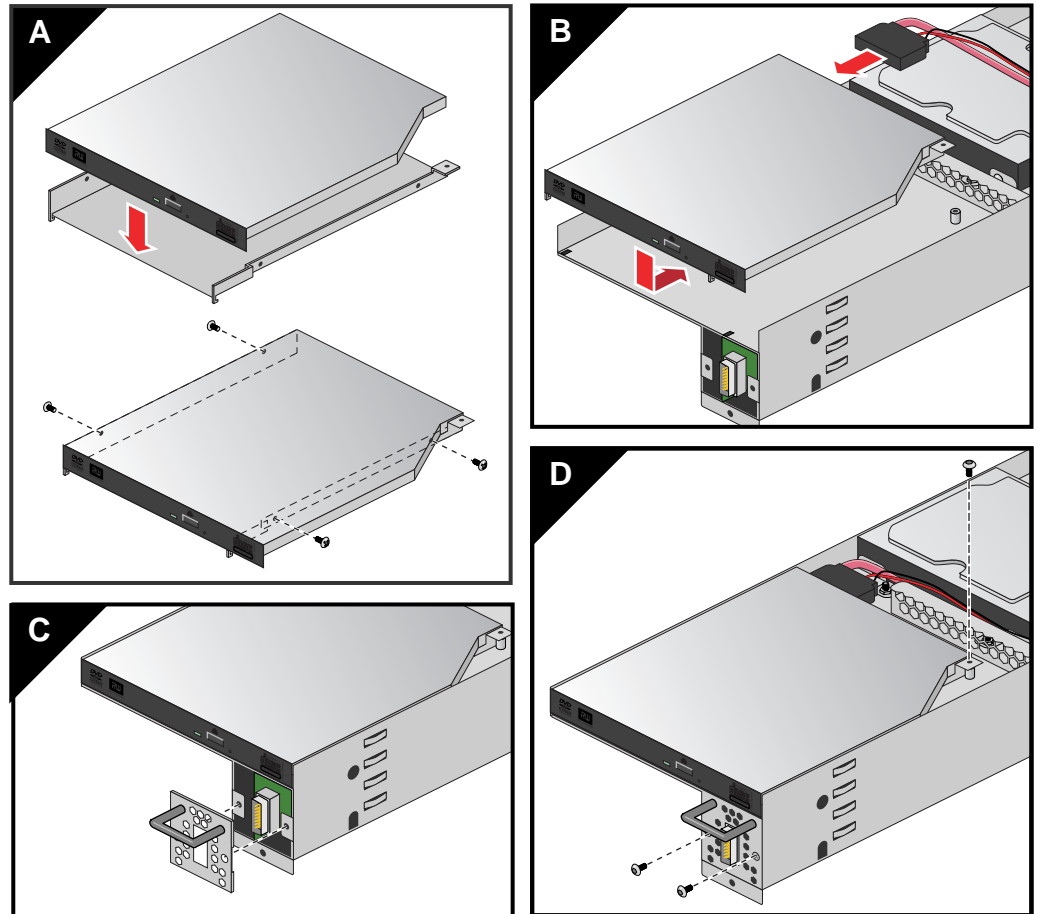

Figure 5-15 Replace the DVD Drive
13. Install the two screws from the metal brackets on the left and right sides of the new DVD (four screws total). See Figure 5-15 for an example.